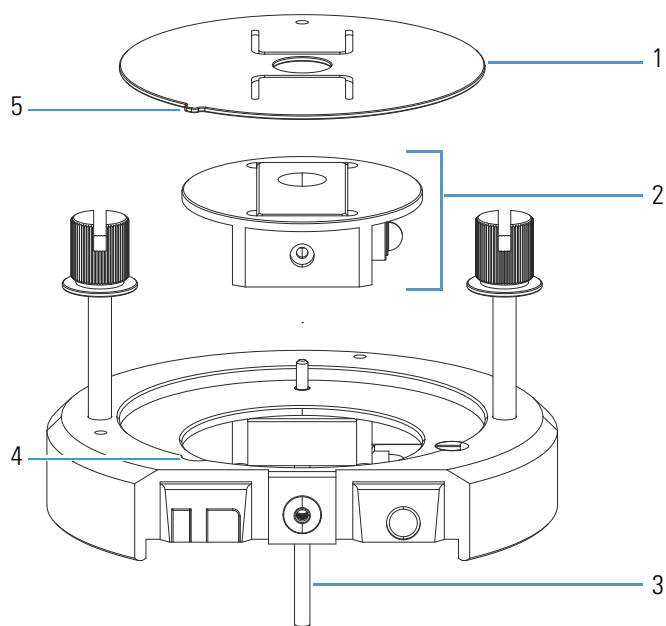

Figure 8-4. Calibrant ion source removed from the IC source heater interface
2. From the bottom, press upward with your fingers to remove the Internal Calibrant discharge source retainer and the Internal Calibrant discharge source (Figure 8-4).
- Align the Internal Calibrant discharge source and the Internal Calibrant discharge source retainer as shown in Figure 8-4 on page 8-18. Then reinstall them into the IC source heater interface.
- Align the guide pin on the IC source heater interface (Figure 8-4 on page 8-18) with the guide pin socket on the S-lens or ion funnel, and then firmly press the heater interface until it snaps into place.